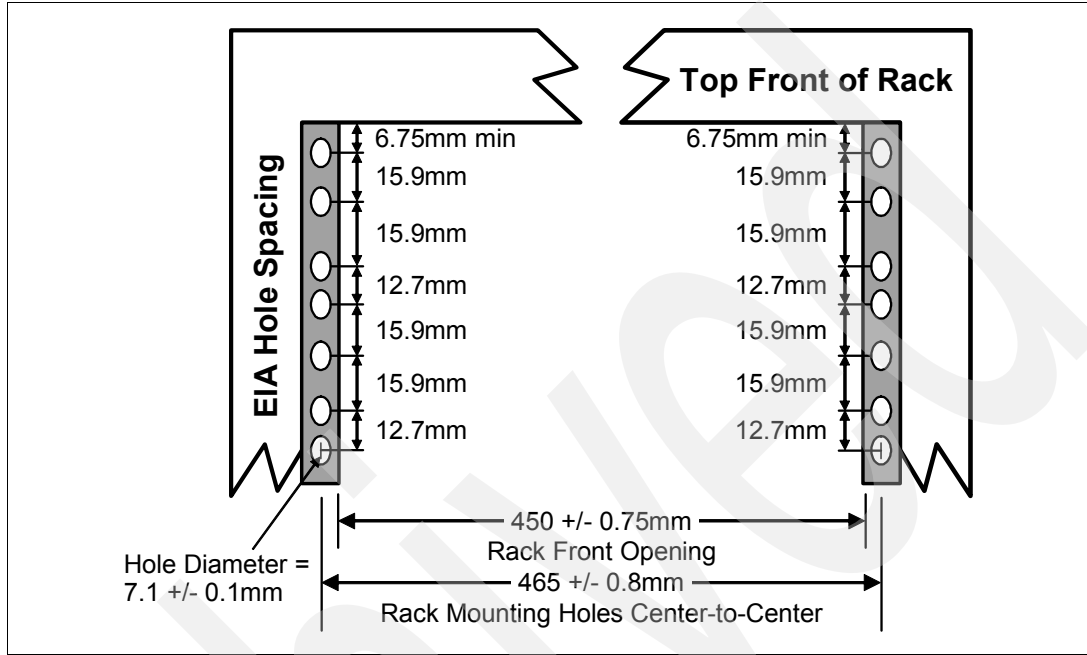

Figure 1-7 Rack specification dimensions, top front view
- ▶ The vertical distance between the mounting holes must consist of sets of three holes spaced (from bottom to top) 15.9 mm (0.625 in.), 15.9 mm (0.625 in.), and 12.67 mm (0.5 in.) on center, making each three-hole set of vertical hole spacing 44.45 mm (1.75 in.) apart on center. Rail-mounting holes must be 7.1 mm ± 0.1 mm (0.28 in. ± 0.004 in.) in diameter. See Figure 1-7 for the top front specification dimensions.